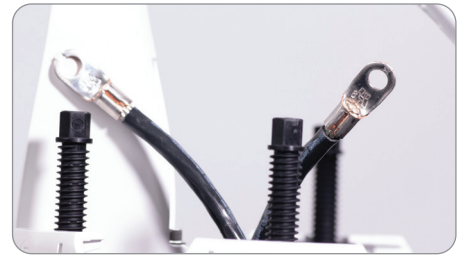

Figure 18
- Bonding hardware is typically defined by local practice or end user. Apex offers a bonding eyelet for up to a ¼" ground stud. (Figure 18)